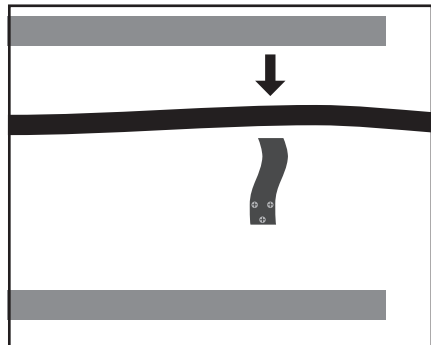

Fig. 16
1. Install the hydraulic pipe over the entire length of the bottom plate (Fig. 16).